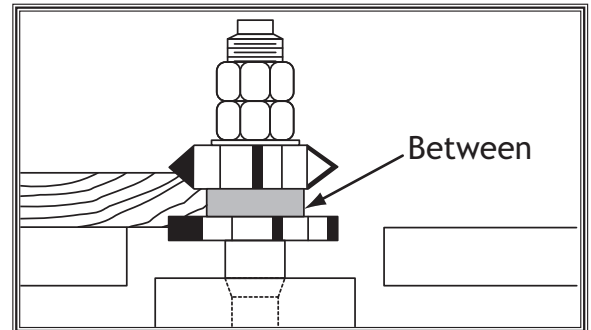

Figure 23. Rub collar mounted between two cutters.
- **BETWEEN TWO CUTTERS** as shown in **Figure 23**. This setup has the advantage of making two profile cuts in a single pass.